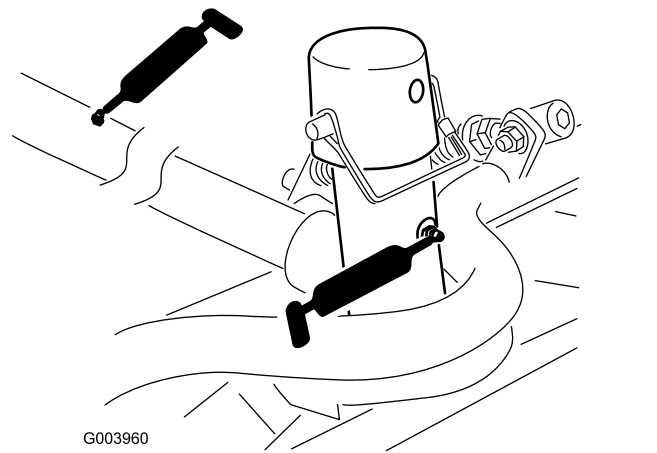

Figure 78
- Cutting-unit carrier-frame and pivot (2 each) (Figure 78)